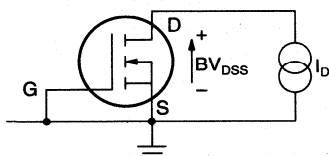

Figure 6: N-Channel BV_{dss} Measurement
- D. BV_{DSS} – The breakdown voltage of drain to source with gate shorted to source. It is determined by forcing a specified current from drain to source and measuring the resulting voltage. Properly designed MOSFETs should not have a latchback breakdown and a low current measurement is sufficiently accurate. (See Figure 6 for the measurement circuit.)